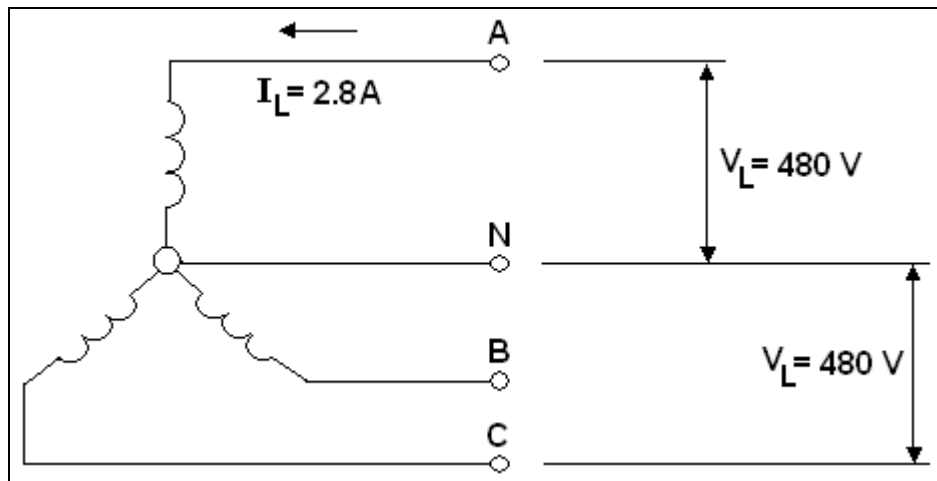

Fig. 2.4-16
9. Calculate the line voltage for the **Wye** connection shown in Fig. 2.4-16.
10. Determine the phase current for the connection in Fig. 2.4-16.